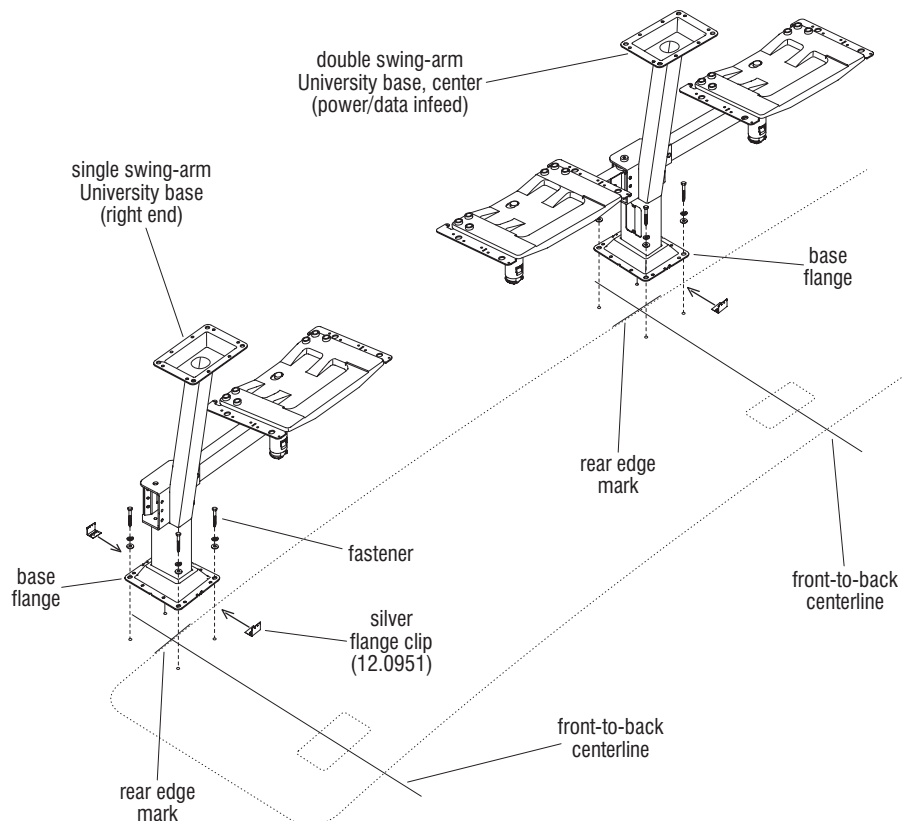

Figure 2
4. Identify which type of bases are to be installed (single or double swing-arm, and/or power/data infeed) along with their location according to the space-planning layout. Set the bases out at the appropriate location. Carefully move the table tops forward to make room for installation of the bases to the floor (Figure 2).
b. Position the base onto the floor over the front-to-back centerline and rear edge mark where the base will be installed. With the base correctly centered over the marks and lined up with the front-to-back centerline, mark around the perimeter of the base for removal of the carpeting. Cut and remove the carpeting. Carefully align the base flange onto the floor as described above and mark the anchor hole locations onto the floor (Figure 2). Read the note below and go onto step 6.
(do not tighten) mounting screws. Shim under the base flange with steel washer(s) as needed to level or compensate for floor variances (Figure 2).
7. Center the silver flange clips (12.0951) under both 6" sides of base flange, with the barbs up. Insert the locating tabs of the flange so that they are tight into the base flange notches for proper engagement of flange covers later. After all bases are positioned and adjusted with shims, securely tighten base flanges to the floor (Figure 2). Do not install plastic flange covers until step 103.